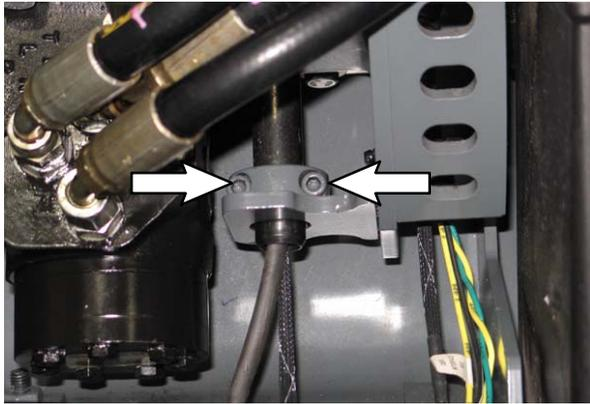
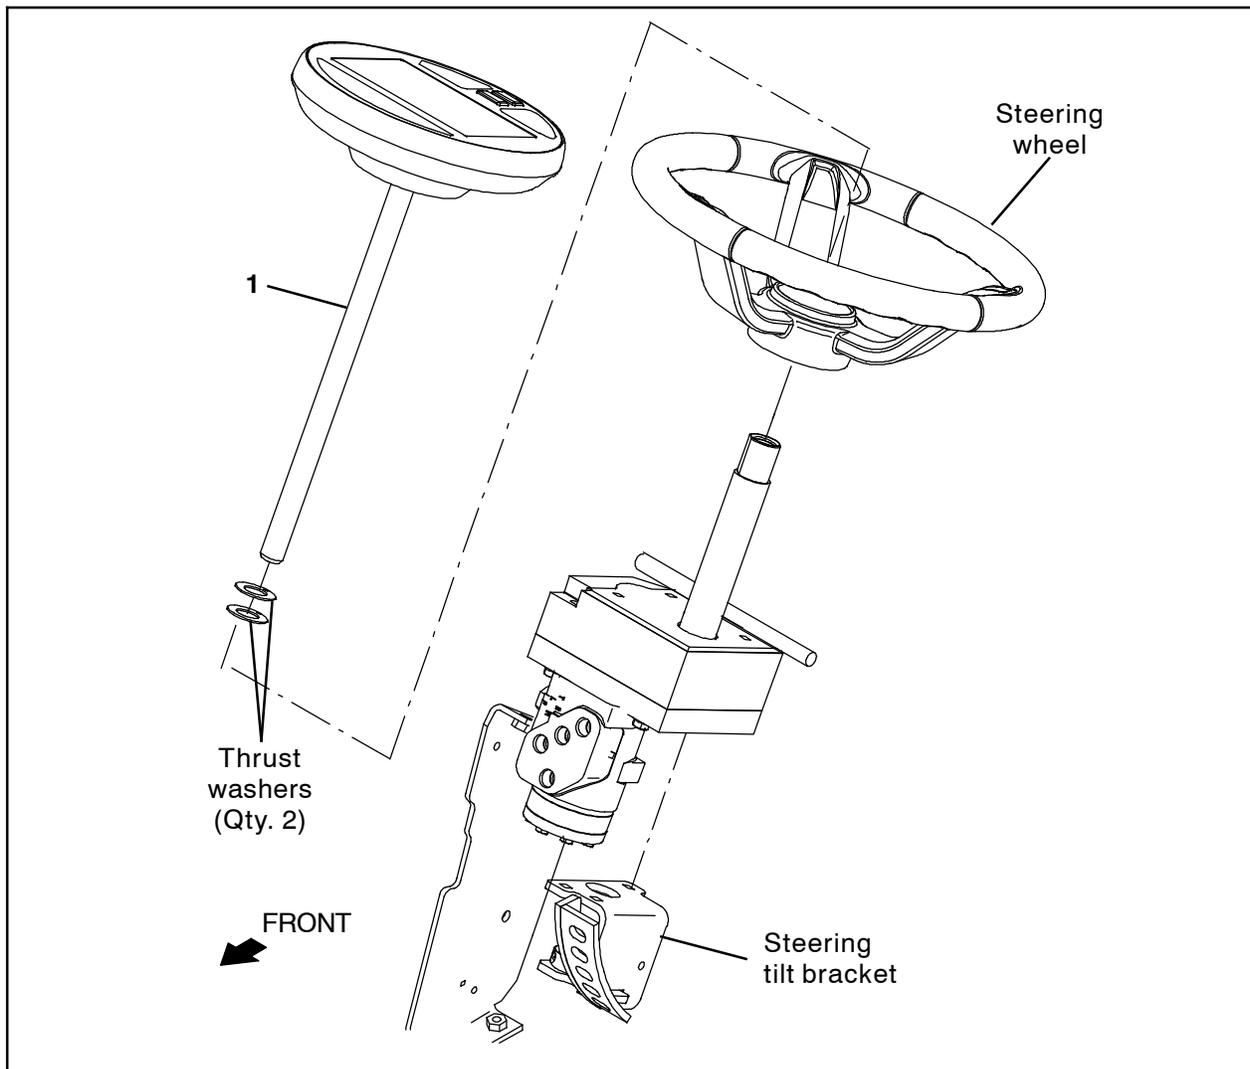

FIG. 2
FIG. 3
- Loosen the socket screws (Qty. 2) securing the pod assembly into the steering tilt bracket. (Fig. 2/Fig. 3)
- Pull the pod assembly out from the steering assembly. (Fig. 3)
- Remove the two thrust washers from the pod assembly. Set the thrust washers aside. Discard the removed pod assembly. (Fig. 3)
- Slide the thrust washers onto the new pod assembly (1). (Fig. 3)
- Insert the new pod assembly (1) into the steering assembly. (Fig. 3)
- Orient the pod assembly (1) so the display is positioned correctly in the steering wheel and tighten the two socket screws to secure the pod assembly into the steering tilt bracket. (Fig. 2/Fig. 3)
- Connect the pod assembly (1) to the main wire harness.